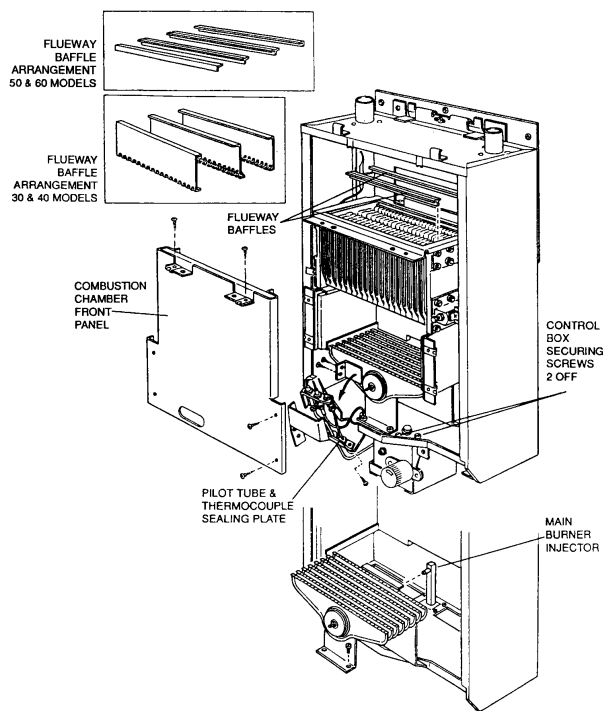
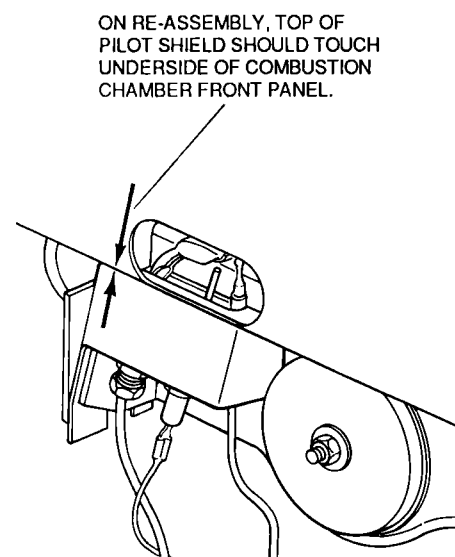

Figure 27 PREPARING THE BOILER FOR SERVICING
Figure 27A PILOT SHIELD
See Fig 27
Refit the main burner ensuring it is correctly engaged onto the rear injector. Replacement of the other components is the reverse of removal. Ensure that the flueway baffles are refitted as illustrated in Fig 27 NOTE: The pilot shield is located between the pilot and the securing bracket, and should be pushed upwards to make contact with the underside of the combustion chamber front panel. See Figure 27A Ensure on re-assembly that the sealing plate and split grommets form a tight seal around the pilot tube and thermocouple capillary.
Refer to Fig 27 and carry out the following:-
- c Access to the pump over-run thermostat is made easier by separating the upper assembly of the control box from the boiler base. This is done by removing the two hexagonal head screws identified in Fig 27 Tilt the upper assembly and disconnect the electrical wiring from the thermostat as follows:-
- c Pull off the outer thermostat knob. d Remove inner thermostat post by undoing the two securing screws. e Access to the boiler thermostat is made easier by separating the upper assembly of the control box from the boiler base. This is done by removing the two hexagonal head screws identified in Fig 27 Tilt the upper assembly and disconnect the electrical connections from the rear of the thermostat as follows:-